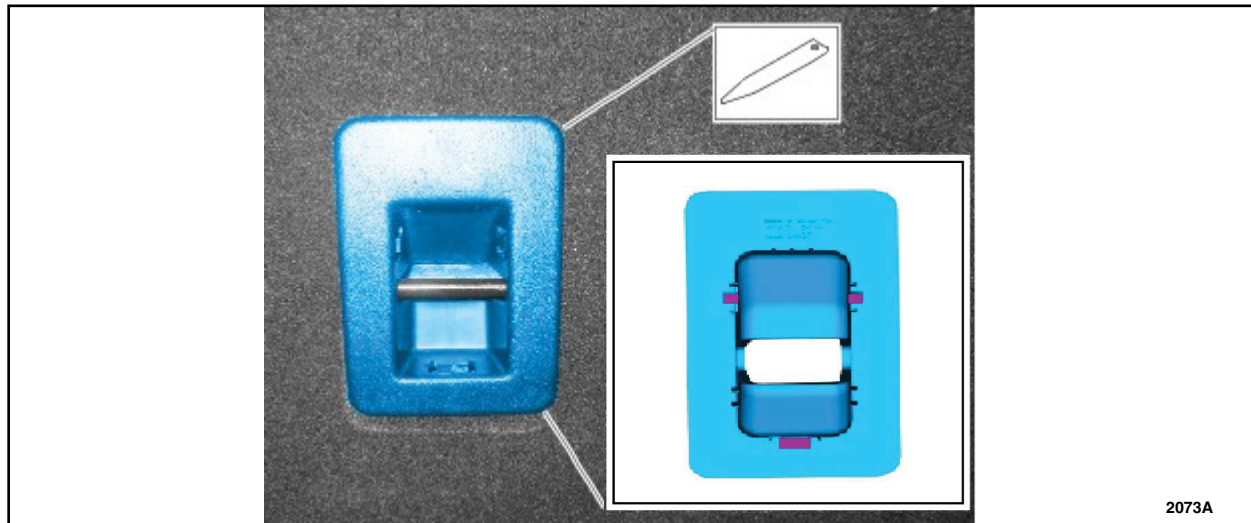

FIGURE 1
1. Remove the child safety seat tether anchor bezel. Use the General Equipment: Interior Trim Remover. See Figure 1.